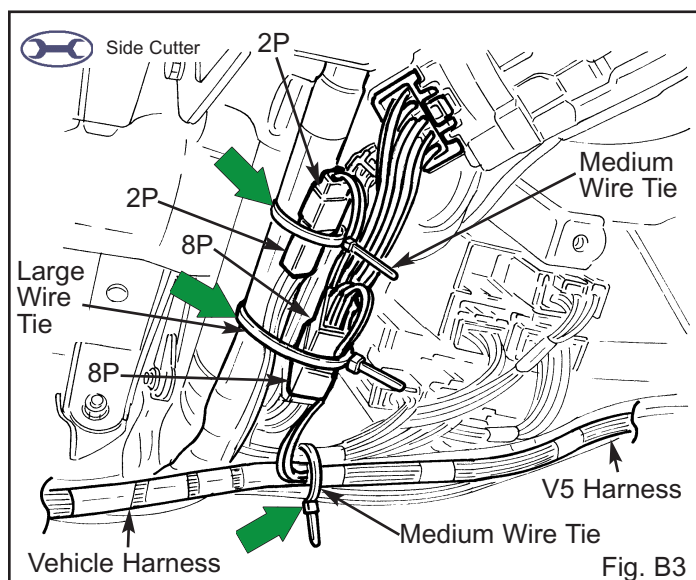

Fig. B3
4. Secure the 8P connectors to the vehicle's harness with a large wire tie. (Fig. B3)
5. Secure the 2P connectors to the vehicle's harness with a medium wire tie. (Fig. B3)
6. Route the V5 harness toward the connector block area, then secure it to the vehicle harness with one medium wire tie. (Fig. B3)